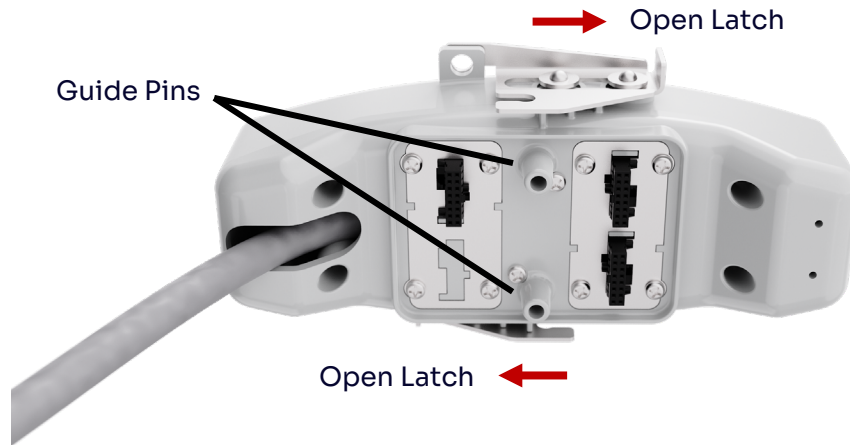

Figure 32. Analog Connection Module Guide Pins and Latches.
11. Note the guide pins on the bottom of the Connection Module. See Figure 32. Slide the front and rear latches to the open position.